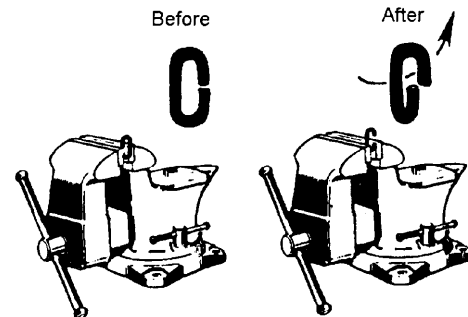

Figure 8
4. Using an adjustable wrench, twist the link horizontally from front to back (Figure 8). Open just far enough to insert or remove a second chain link.